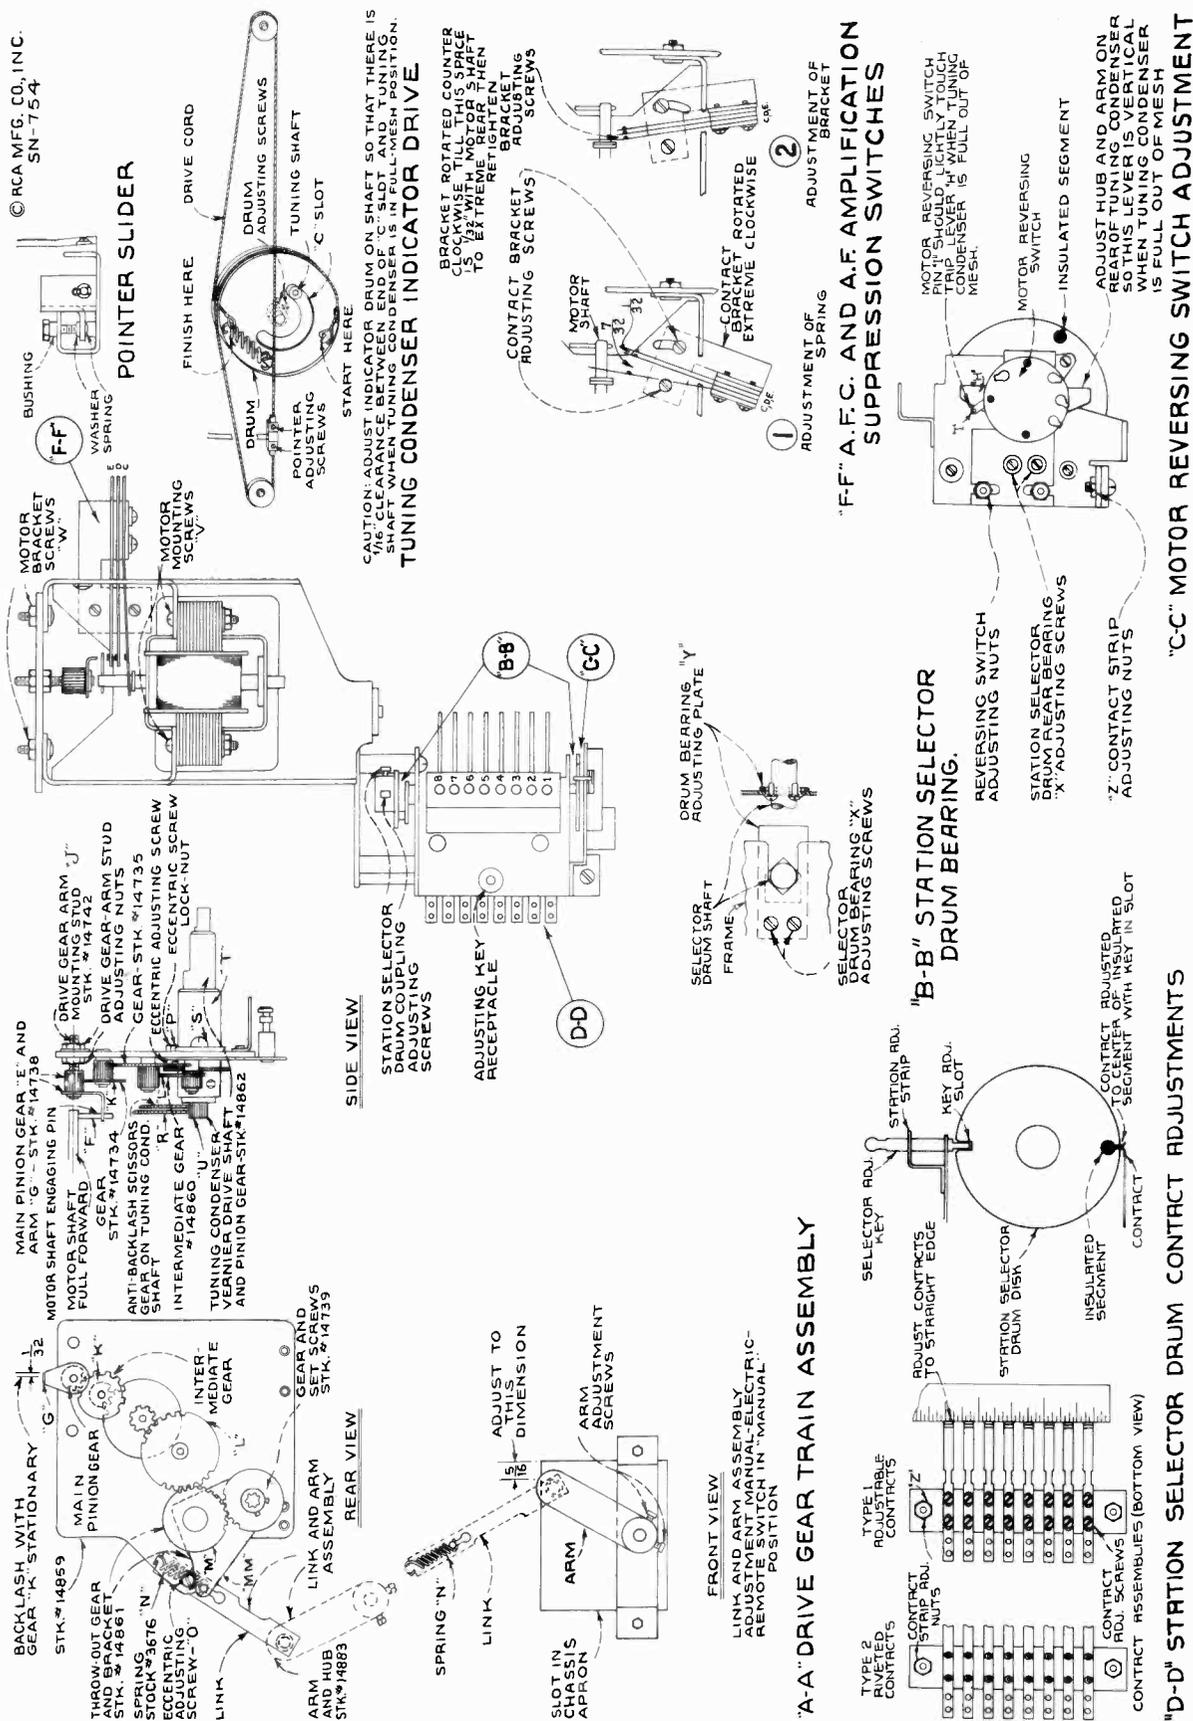

Figure 4—"Electric Tuning" Mechanism Adjustments
The electric tuning mechanism is designed to be as simple in construction and as fool proof in operation as is possible. In order to maintain the accurate results possible with this device care must be taken in effecting any repairs or adjustments. Reference should be made to figure 4 and the following:
**Station Selector Drum.**—(1) Bearing Adjustment—The selector drum may be removed by unscrewing the two bearing adjusting screws "X" on the front and rear bearings and sliding shaft out of slots on frame. To replace drum, the reverse procedure should be followed holding bearing adjusting plates "Y" firmly against the shaft and tightening adjusting screws. (2) Contact adjustment—Two types of contact strips are used. They are designated on figure 4, as types 1 and 2, on which the individual contacts are respectively adjustable and fixed. On type 1, the individual contacts should be adjusted by setting the end contact springs near the mid-position of their travel and aligning the remaining springs to them by means of a straight edge. Either type of contact strip should be adjusted to the selector drum by firmly placing two selector adjusting keys in the station adjustment strip, positions 1 and 8 (locking respective discs), loosening contact strip adjusting nuts "Z" and shifting the contact strip until the end contacts are exactly centered on the respective disc insulating segments. More accurate adjustment may be made by silhouetting the point of contact with a piece of white paper held behind the contact. Adjustment will be facilitated by removing complete assembly from rear of tuning condenser by unscrewing the three mounting screws. Contacts and discs must be kept free of dirt, filings, and other extraneous matter.